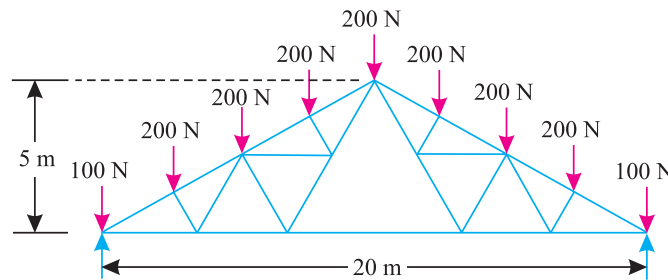

Fig. 14.53.
**Example 14.22.** A french roof truss is loaded as shown in Fig. 14.53.